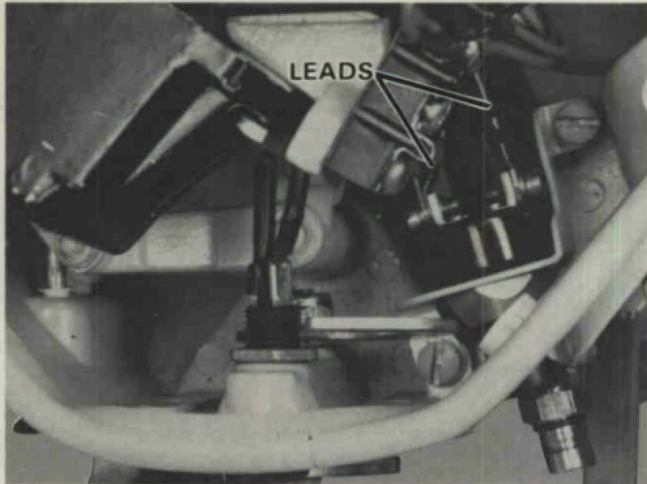

Figure 9. Removing Starter Switch.
- B. If a standard screw driver only is available, starter switch with bracket must be removed to get at fuel pump. Figure 9.